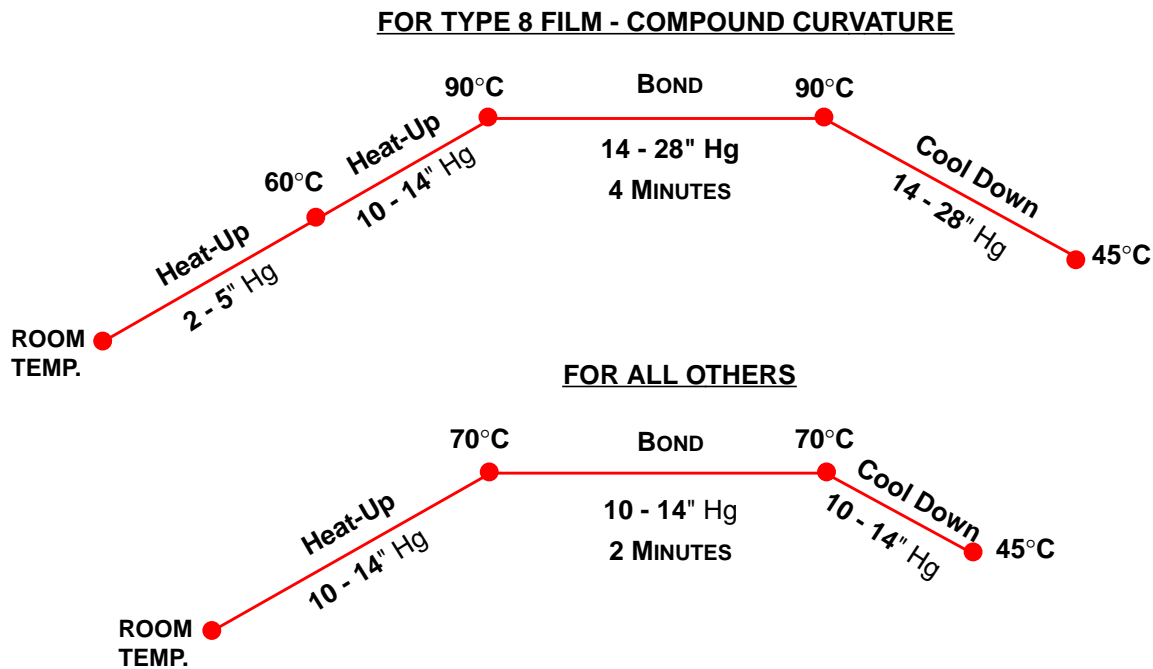

Figure 4 - CURE CYCLES
- Step 3. Transfer the bagged assembly to an oven and follow the applicable heat/pressure (i.e., vacuum) cycle shown in Figure 4. The particular cure cycle to be used depends on the shape of the part and the material being applied (i.e., the first cycle shown below is a higher temperature cycle required for thermoforming TYPE 8 film into compound curvatures).